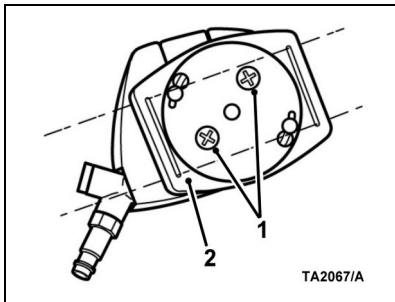

Fig. 3
7. To adjust the left/right wearing position of **T/A/LINE** (see Fig. 3):
- i) Release screws (1), rotate disc (2) and re-tighten screws.